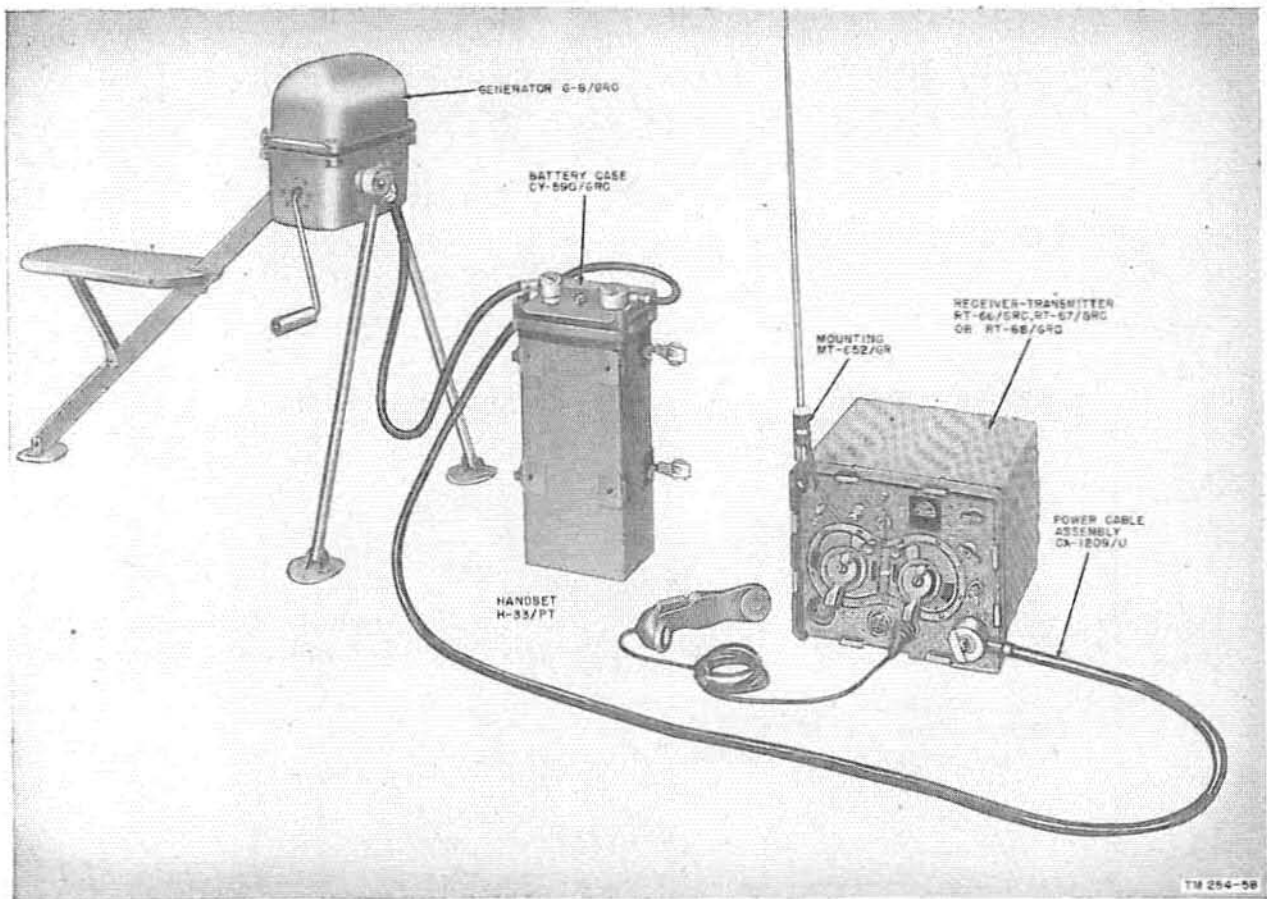

Figure 81. Field operation of Set 1 with Generator G-8/GRC and Case CY-590/GRC.
e. MOUNTING MT-652/GR. Mounting MT-652/GR (fig. 81 or 83) is used to hold the antenna masts used in field installations. The overhanging flange of the receiver-transmitter front panel has a boss which will accept the base of Mounting MT-652/GR. When the mounting is secured, the mast sections supplied with the modification kit (*f* below) can be screwed into the mounting. A rubber-covered lead-in wire, which is part of the mounting, is used to connect the antennas to the ANT post on the receiver-transmitters.
134. Operation of Set 1 with Generator and Battery Case (fig. 81)
b. Set up the generator, battery case, and receiver-transmitter as illustrated in figure 81. Refer to the manual supplied with the generator for detailed information on that unit. Turn the OFF-ON-REMOTE switch of the battery case to the OFF position.